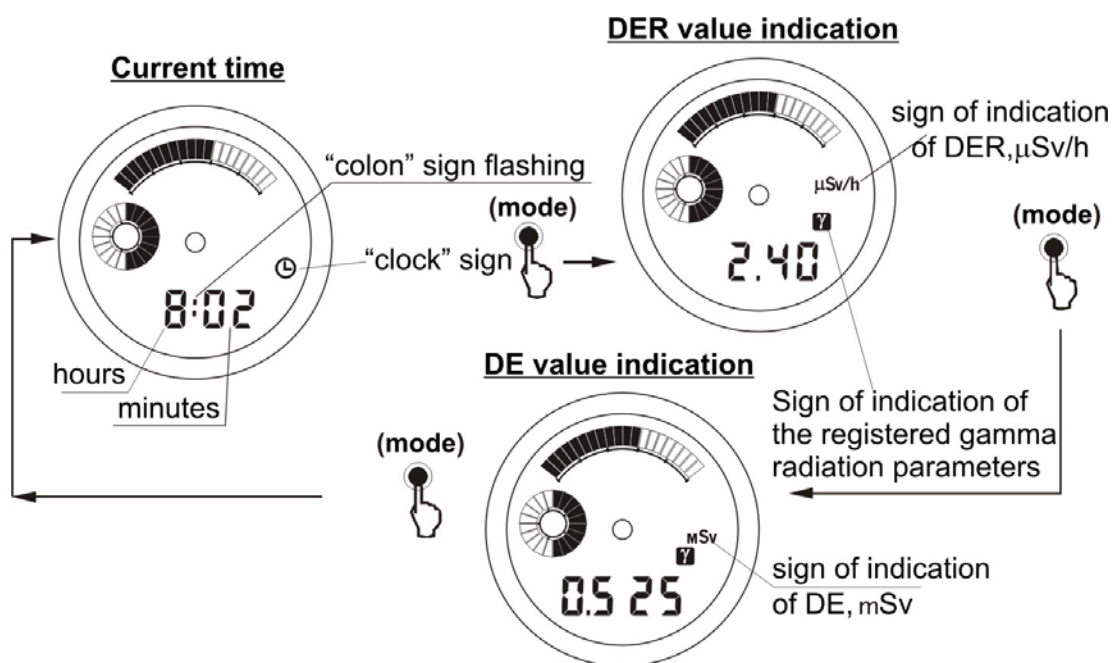

Fig.3.1
3.2.1 The indicator continuously carries out the 24 hour registration and indication of DER, DE, DE accumulation time and indicates the current time on the electronic watch. The DE and DER values are indicated in digital format and also in analogue format - on the corresponding graphic scales that appear on the display, if the DE and DER values exceed 0.1 of the preset thresholds. When the DE and DER values exceed the thresholds, the corresponding scales are completely displayed. The closeness of the DE and DER current values to their thresholds can be judged from the degree of these scales filling up (Fig. 3.1).
3.2.2.2 The selection of the indicated value is performed by short pressing of button 1 (MODE). Each repeated pressing of this button changes the indicated values in the sequential order: DER - DE - Current Time (Fig. 3.1):